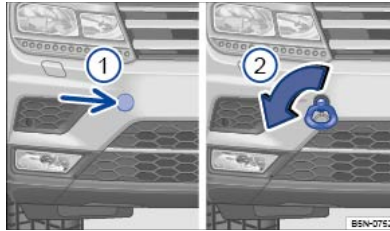

Fig. 220 In the front bumper, right-hand side: towing eye.
⇒ Fig. 220.
- Press the side of the cover ⇒ Fig. 220 ① (arrow) to release the cover fastener.
- Turn the towing eye ⇒ Fig. 220 ② as shown by the arrow into the threaded hole and tighten as far as possible ⇒ ①. Use a suitable object to screw the towing eye fully and securely into the mounting.